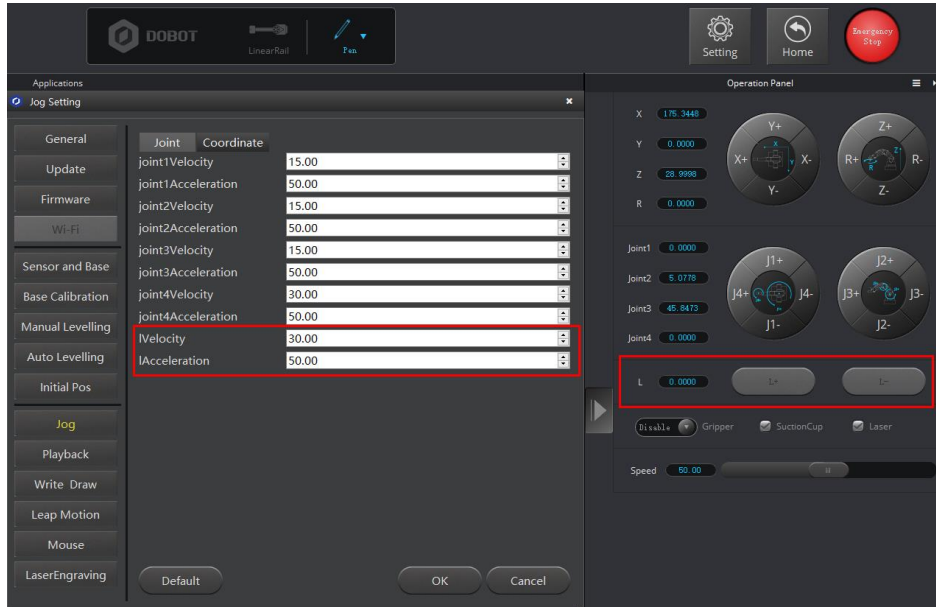

Figure 1.12 LinearRail motion test
**Step 2** Click **L+** or **L-** to test whether sliding rail can move properly. As shown in Figure 1.12